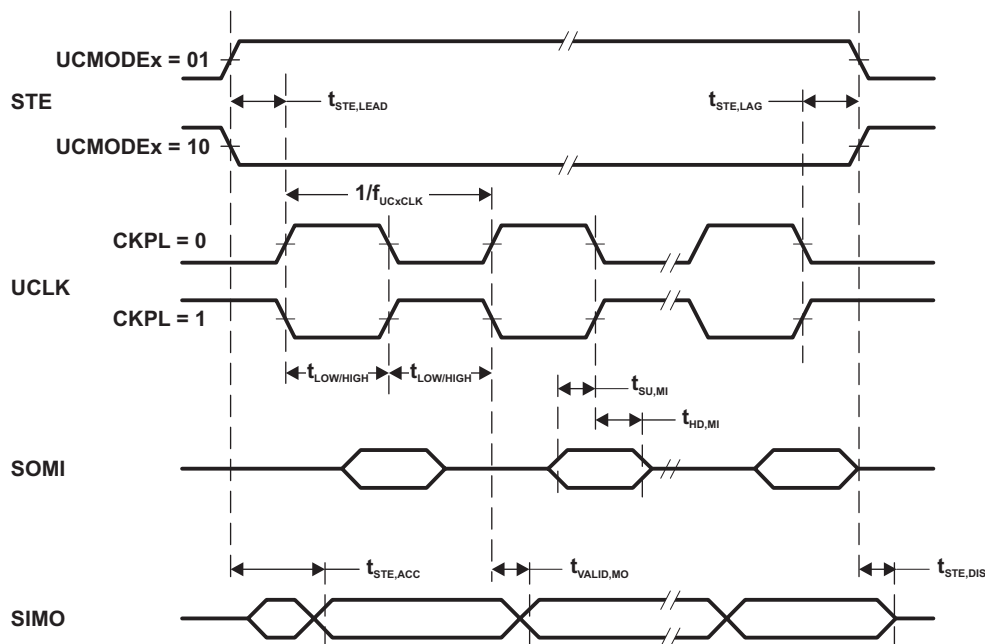
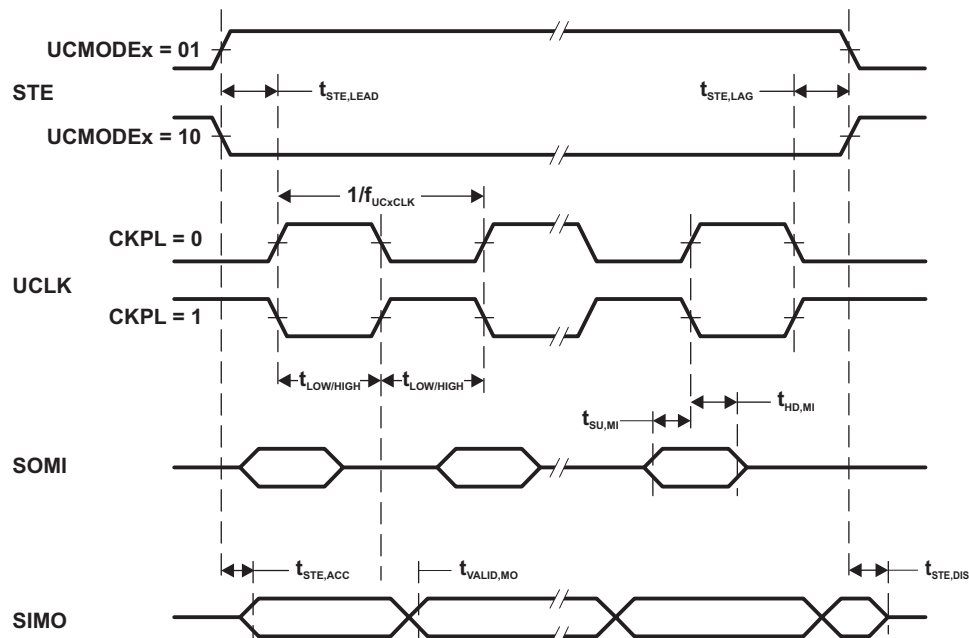

Figure 12. SPI Master Mode, CKPH = 0
Figure 13. SPI Master Mode, CKPH = 1
(2) Specifies the time to drive the next valid data to the SIMO output after the output changing UCLK clock edge. See the timing diagrams in Figure 12 and Figure 13.
(3) Specifies how long data on the SIMO output is valid after the output changing UCLK clock edge. Negative values indicate that the data on the SIMO output can become invalid before the output changing clock edge observed on UCLK. See the timing diagrams in Figure 12 and Figure 13.